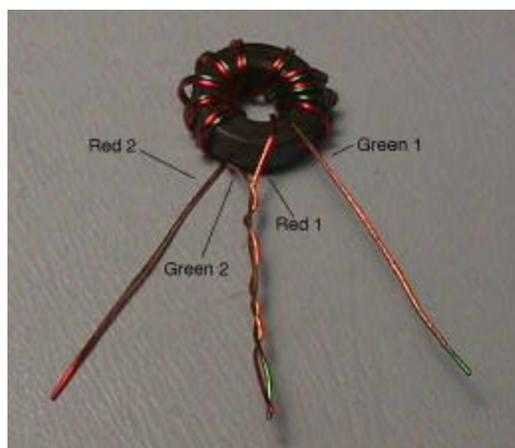

Fig 3. T1 winding example
- ___ Wind T1 with 10 turns using the red and green #28 gauge wire. T1 is the small, black toroid just under one half inch in diameter. See figure 2 and wind this in bifilar fashion by using two lengths of wire and winding them at the same time. It doesn't matter if you twist them or wind them side by side. Note: you must wind this in the direction shown in **figure 3**.